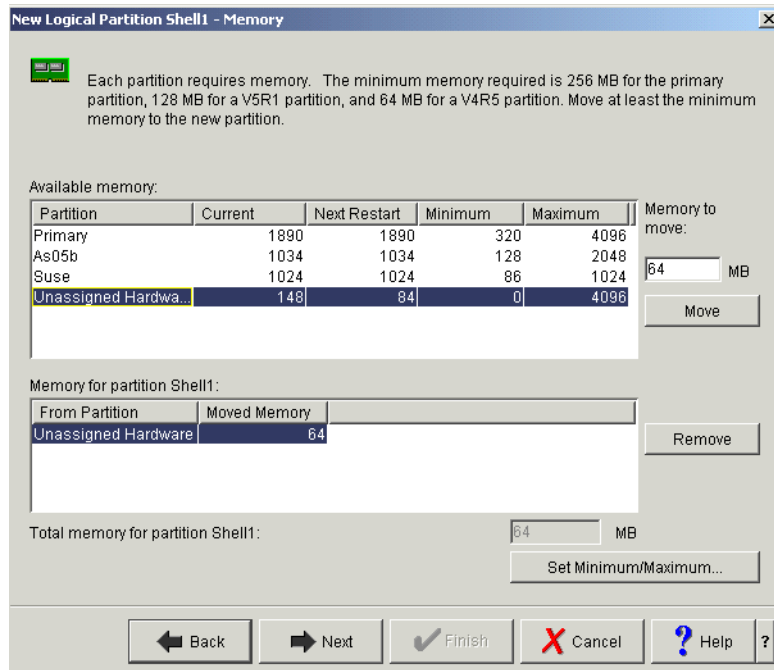

Figure 4-47 Moving memory from Unassigned Hardware to new partition Shell1
- Move memory from the Unassigned Hardware to Shell1 as shown in Figure 4-47. Select **Unassigned Hardware** and type 64 in the Memory to move field. Click the **Move** button. The Total memory for partition Shell1 box changes to 64. You should also specify min/max for the memory to prevent the need for another IPL when adding other resources to the partition later.